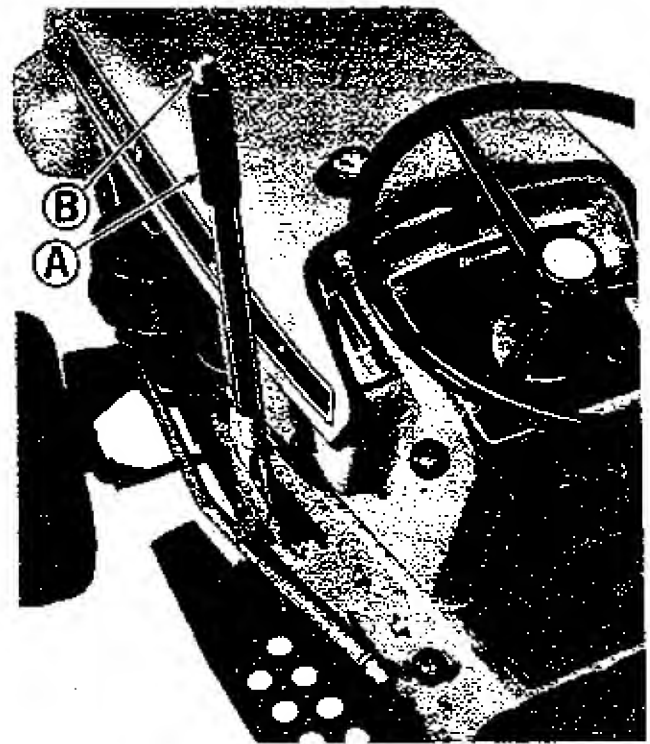

Figure 3. Controls on left side of tractor.
MANUAL LIFT LEVER: (Figure 3, item A) The lift lever is used for raising or lowering attachments such as the rotary mower or the tiller for transport. The operating height of attachments, can be regulated by using the notches and pin holes provided. The thumb button (B) on top of the handle disengages the catch from the quadrant so the